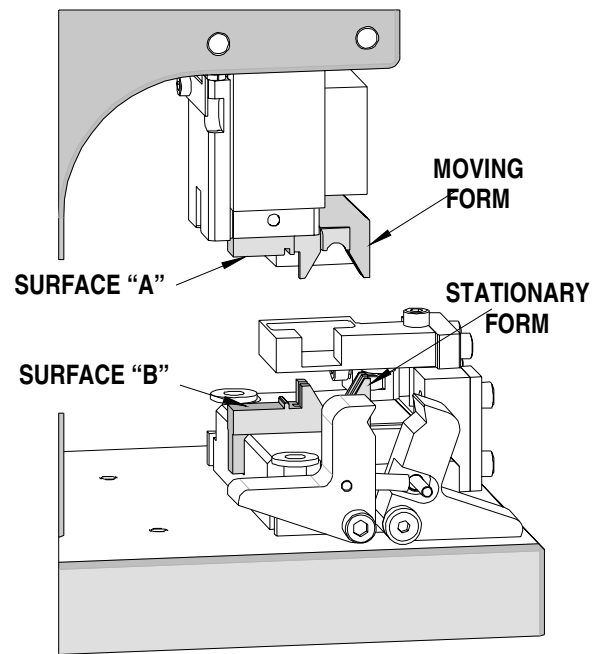

Figure 2-6
4. The stroke should be set when the press ram is in the down position and the crimp die surfaces "A" & "B" (See Figure 2.6) should be just touching. A gap between these surfaces will result in a larger crimp diameter and therefore lower pullout retention. See Product Specifications, PS-83421-9000 for related information.
6. Tighten the (2) M4 X 16 long BHCS on the Upper Guide Block.